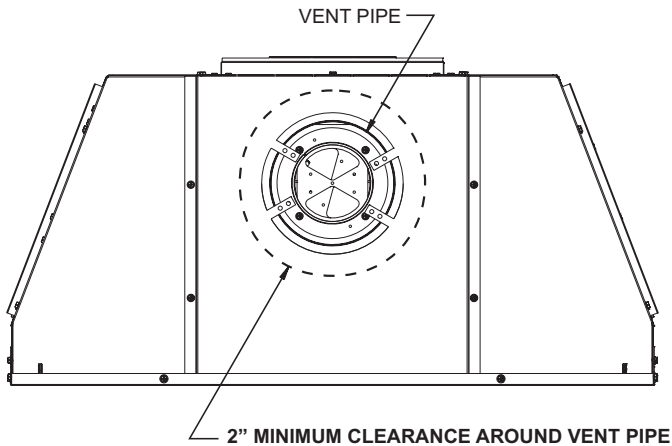

Figure 66
5. Install the Wall Firestop/Thimble assembly as required through the wall. Refer to the venting charts in the fireplace manual to determine the proper height and size of the vent opening. The minimum opening should be 11-in wide by 11-in high. The minimum combustible clearance from the horizontal vent is 2-in from sides and bottom, and 6-in above the vent pipe. **See Figure 66.**